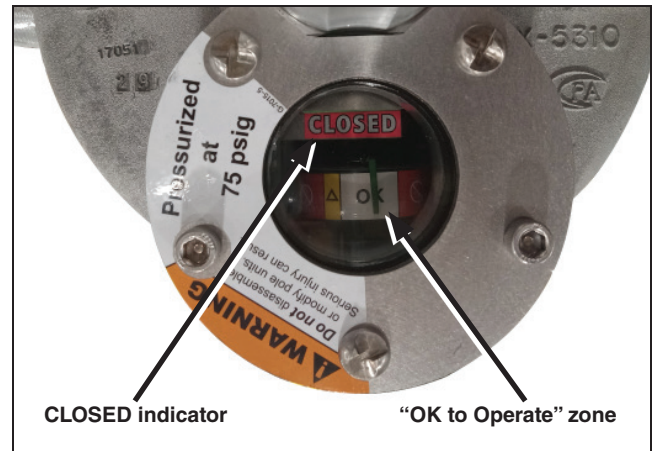

Figure 14. Interrupter is Closed and Charged. The interrupter shows “CLOSED.” Gauge needle is in the white OK to Operate zone.
- STEP 1.** Verify each interrupter is in the **Closed** position and the gas-pressure gauge is in the OK to Operate zone. See Figure 14.